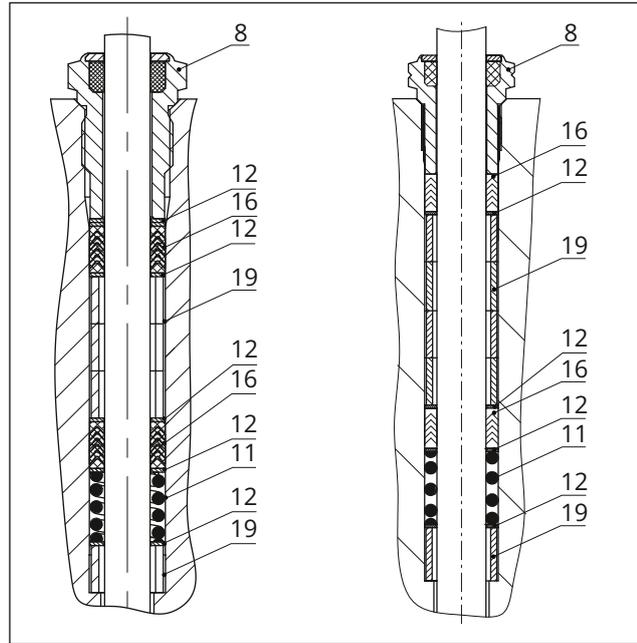

Fig. 25: Standard packing: DN 15 to 40/NPS 1/2 to 1 1/2 (left) and DN 50 to 100/NPS 2 to 4 (right)
12. Carefully slide the packing parts over the plug stem into the packing chamber using a suitable tool. Observe the proper sequence (see Fig. 25).
13. Firmly press the plug (5) into the seat (4). Fasten down the flange (2) with the body nuts (14). Tighten the nuts gradually in a crisscross pattern. Observe tightening torques.
14. Screw in the threaded bushing (8) and tighten it. Observe tightening torques.
15. Place yoke (3) on the flange (2) and fasten using the castellated nut (92).
16. Loosely screw the lock nut (10) and stem connector nut (9) onto the plug stem.